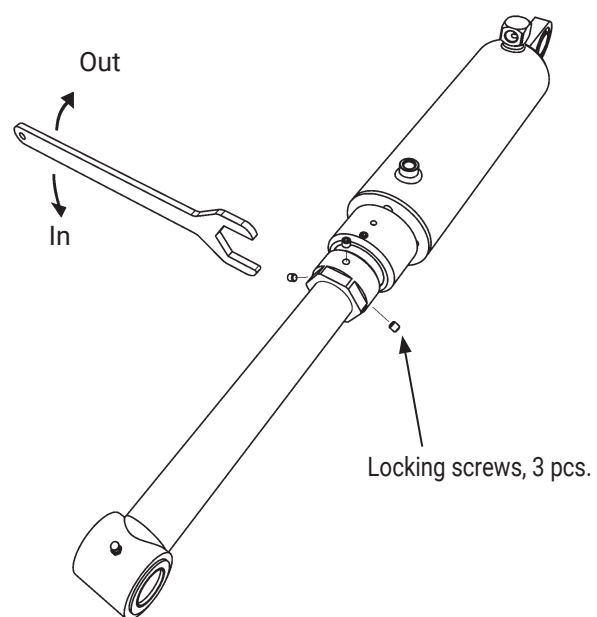

Figure 38. Adjusting the tilt angle
3. Undo the three locking screws on the cylinder mounted on the platform, Figure 38.